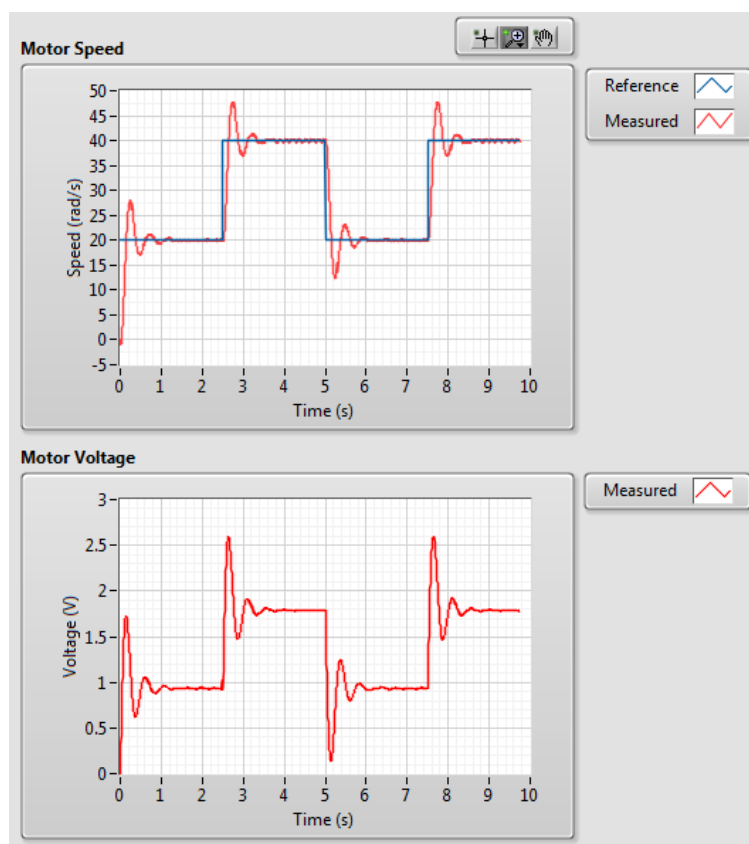

Figure 1-2: Default response of the PI control application
2. Run the VI. The DC motor should begin rotating and the scopes should look similar to Figure 1-2
4. Run the VI. The DC motor should begin rotating and the scopes should look similar to Figure 1-2.
- Offset (V) to **80**
8. Capture the measured speed response. Make sure you include both the Speed (rad/s) and the control signal Voltage (V) scopes.